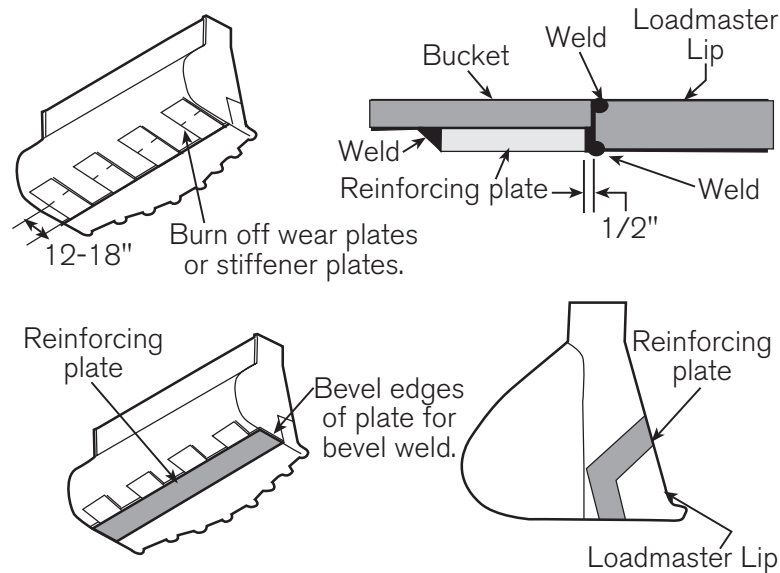

Figure 5 Reinforcing plate installation.
2. On the under side of the bucket, burn off any wear plates or stiffener plates 12-18" behind the back of the Loadmaster Lip. Do not remove any structural components. Install a reinforcing plate the full width of the bucket as shown in *Figure 5*. The plate should be thick enough to make up the difference between the thickness of the Loadmaster and the bucket, but no thicker than 1". In addition, ESCO recommends the installation of reinforcing plates at the outsides of the bucket adjacent to the Loadmaster Lip, especially on buckets used in heavy-duty applications, *Figure 5*. Use the same plate thickness specifications as for the bottom reinforcing plate.